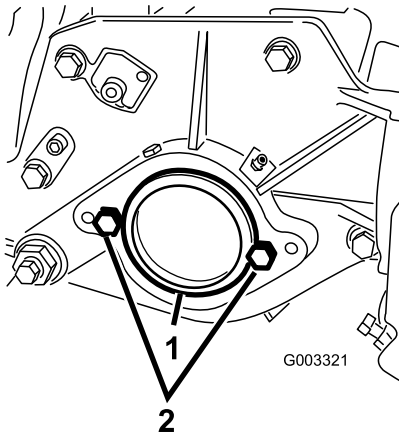

Figure 7
3. On the right end of the cutting unit, remove the plastic plug from the bearing housing (Figure 7).
4. Remove the 2 bolts from the right side plate (Figure 7).
1. Plastic plug 2. Bolts (2)
6. Loosely install the 2 reel-motor mounting bolts to the left side plate of the cutting unit (Figure 7).